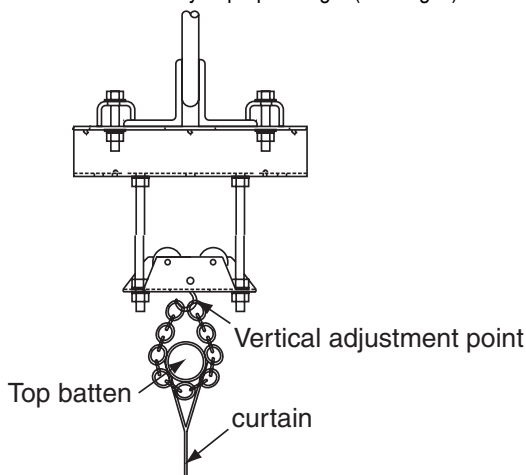

Figure 1
- ① Verify overall height and width with shop drawing to determine possible discrepancies.
- ② Attach winch support angles to winch plate and install winch per location shown on shop drawing.
- ③ Install drive pipe support assembly angles per location shown on shop drawing.
- ④ Attach drive pipe support assemblies to angles with threaded rod. Adjust assemblies vertically to proper height (See Fig. 1).
- 3 There are two basic vertical adjustments to this divider. One is the threaded rods attaching the drive pipe support assemblies to the drive pipe support angles. The other is the chain from the drive pipe support assembly to the top of the curtain (see Fig. 1).